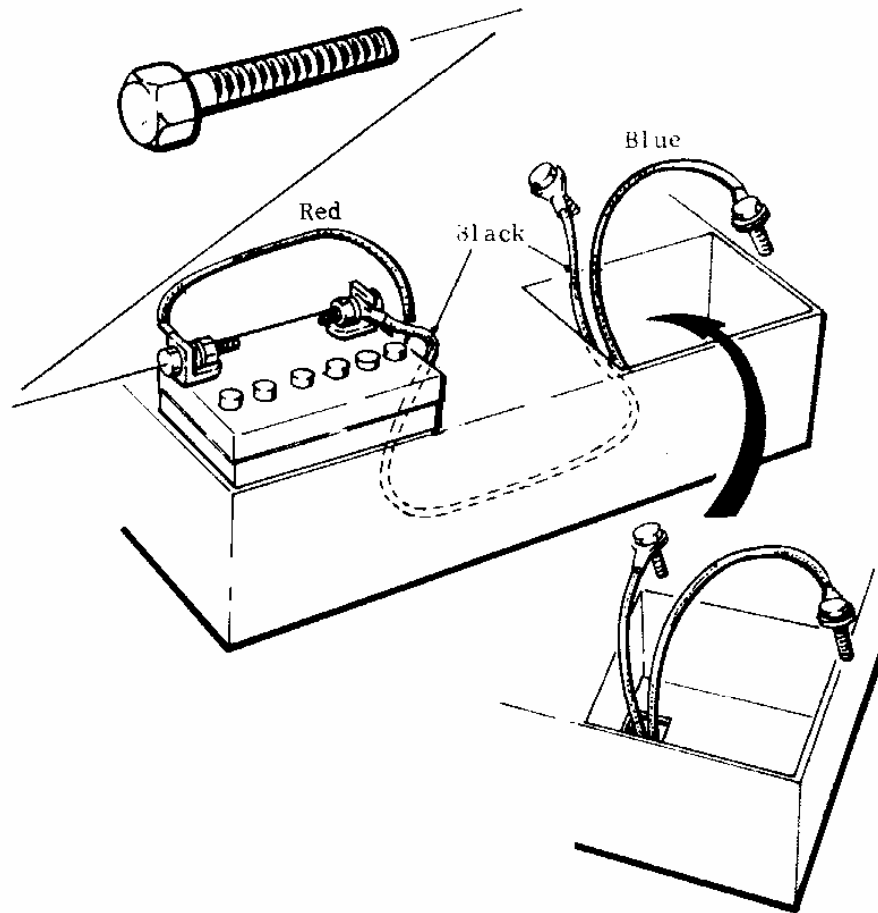

Fig 43 Connecting Batteries
30. FILLING and FITTING BATTERIES Fig 43
Arrange the leads as indicated in Fig 43. See that the batteries are clean and dry, and lower them into the compartments.